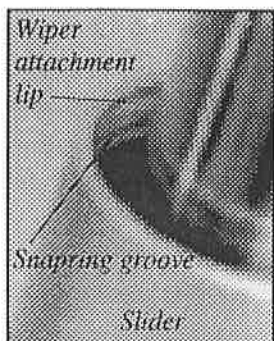

Fig. 23
9. Install the 38 mm snapring into the slider. Make sure the circlip is in the deep groove several millimeters inside the slider, and not only under the wiper attachment lip (Fig. 23).